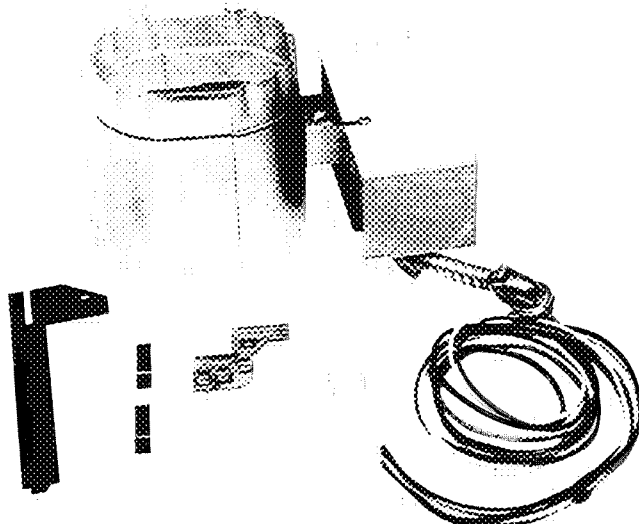

Fig. 1 – Automatic Vent Damper
Step 1 – Install Automatic Vent Damper (Fig. 1, 2).